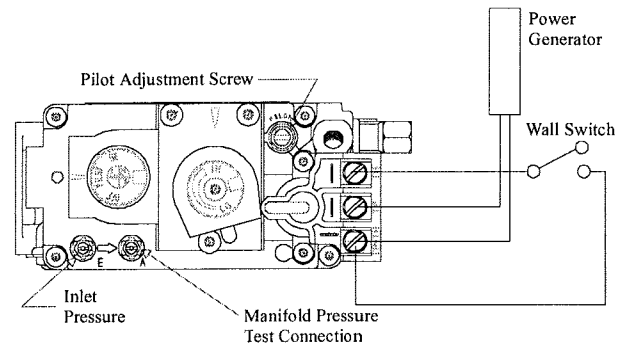

Figure 24. SIT 820 gas valve.
- Have the fireplace installation inspected yearly, including a visual check of the vent system, the burner and the pilot flame. For your convenience a 1/8" manifold pressure tap is supplied on the gas valve for a test gauge connection. See Figure 24.
1. Remove Pilot Adjustment Cap. (See figure 24.)
Pilot won't ignite	Disconnect remote wires and try to light pilot. If pilot now works, remote connections are faulty. Check wiring diagram figure 24 .
Main burner will not light	1. Check wiring ( see figure 24 ) 2. Check wall switch for proper connection.